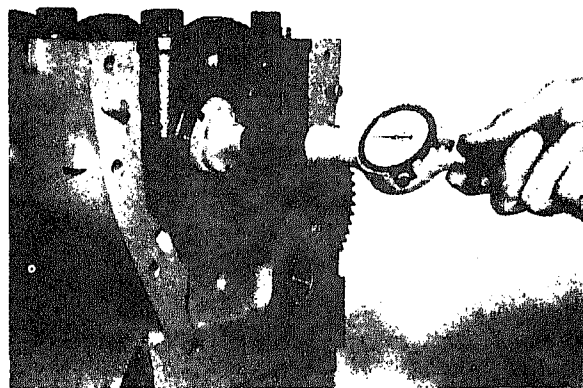

Fig. 1-1-10. Checking main bearing bore for out-of-round
- Gauge main bearing bores horizontally, vertically and diagonally with dial bore gauge or inside micrometers properly adjusted to standards, Fig. 1-1-10. See Table 1-1-8.
8. Check bore with Checking Bar and measure bore diameter once again with dial bore gauge. See Figs. 1-1-10, 1-1-11, and "Main Bearing Bore".